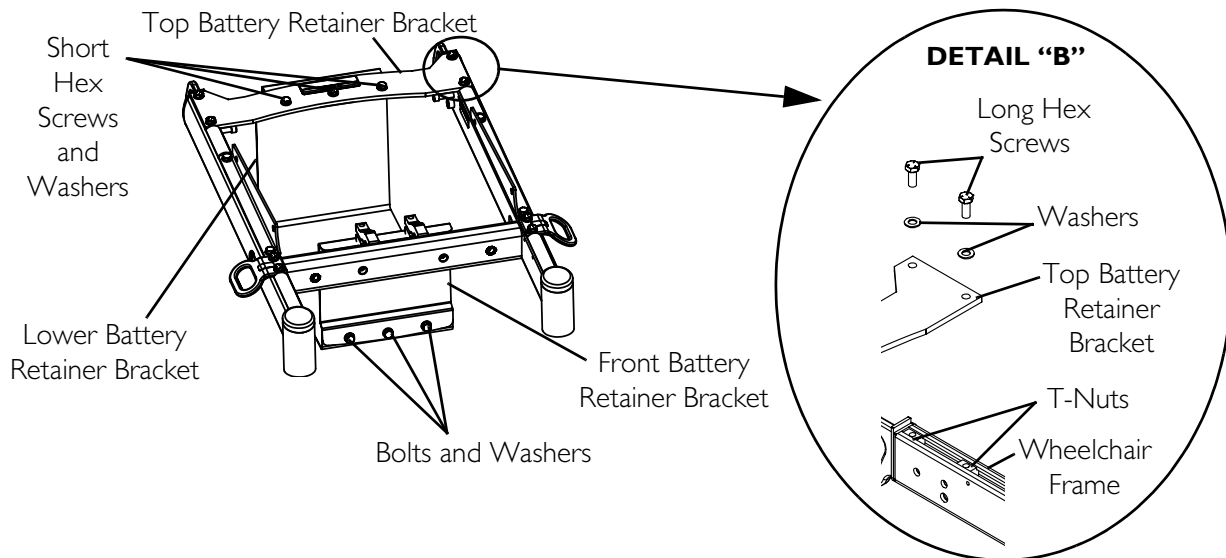

FIGURE 10.6 Removing/Installing Group 24 Battery Boxes - Wheelchairs without Vent Tray
NOTE: For this procedure, refer to FIGURE 10.6 on page 105.
- A. Position the lower battery retainer bracket as shown in Detail “A” of FIGURE 10.6.